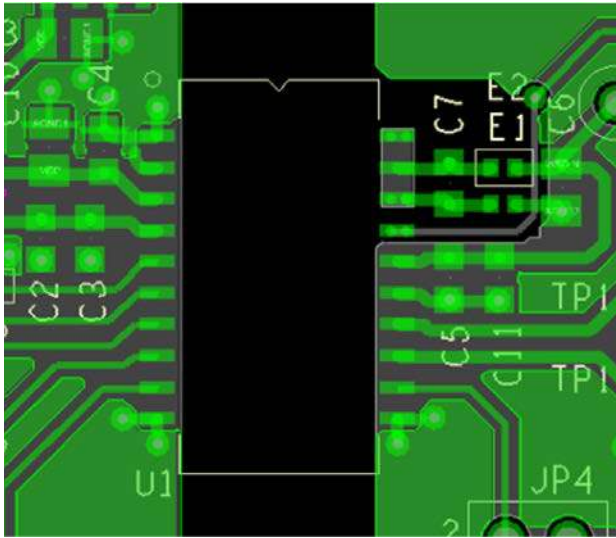
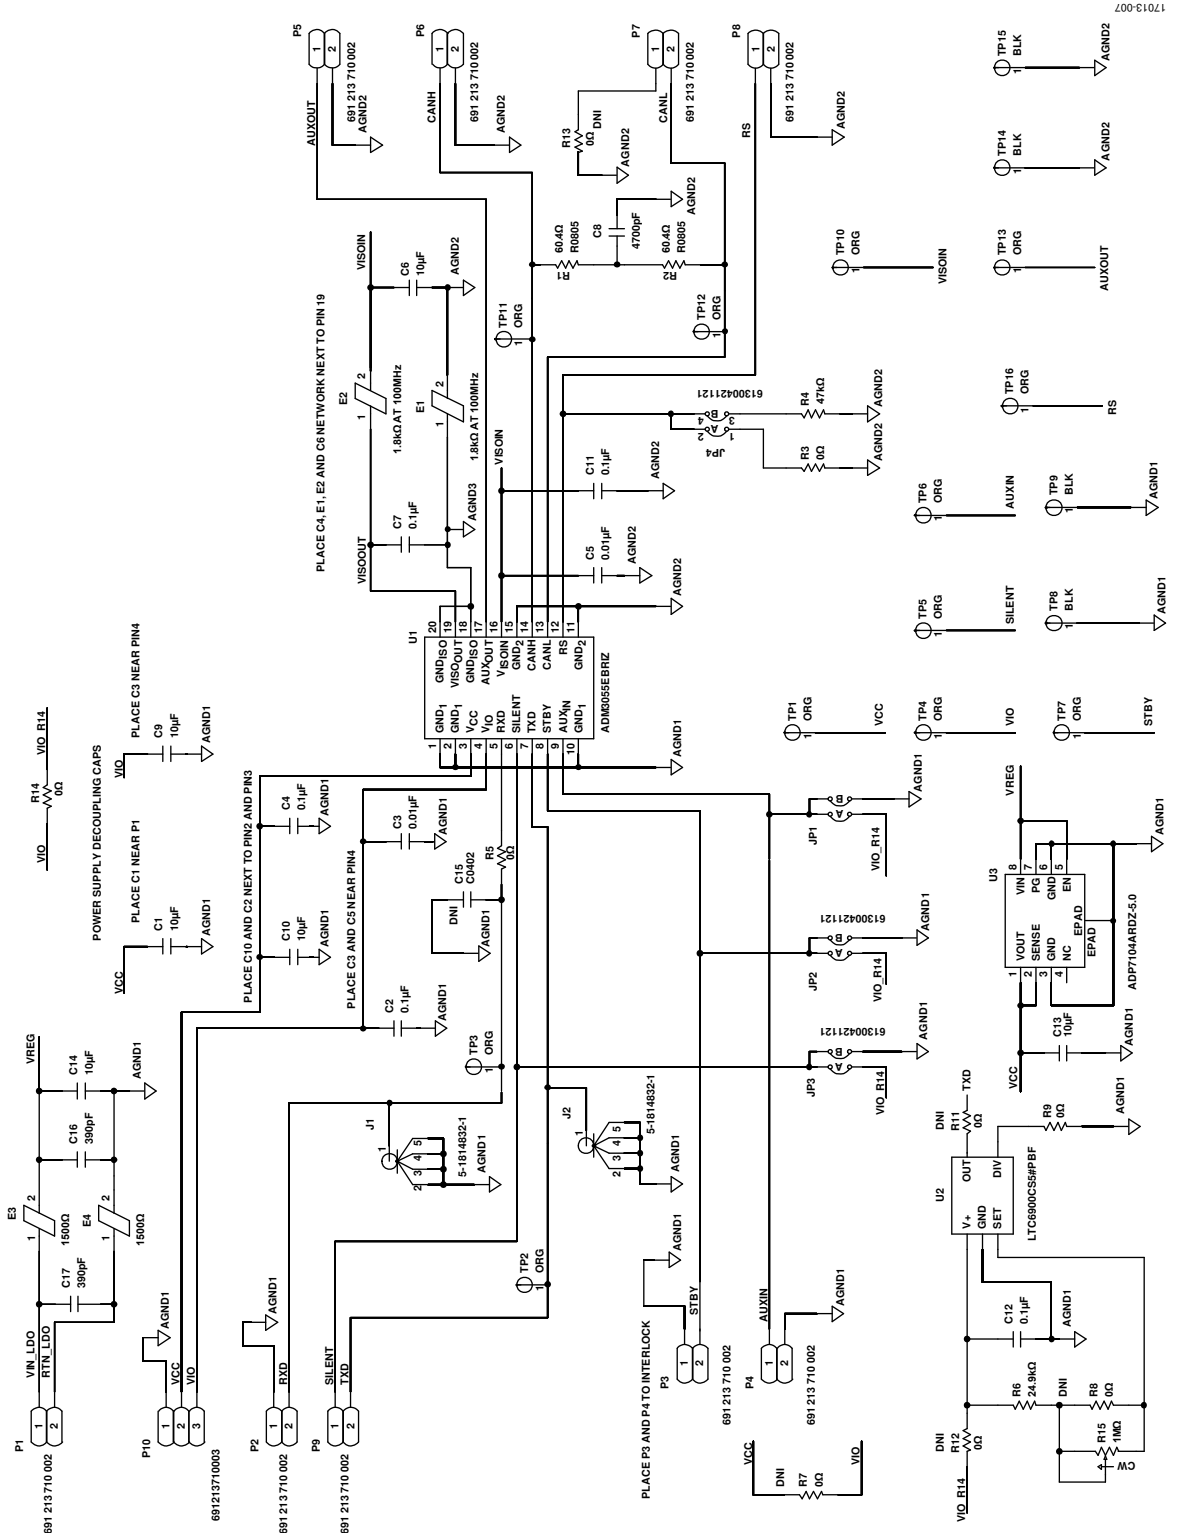

Figure 2. Layout Example for EVAL-ADM3055EEBZ
Figure 5. EVAL-ADM3055EBZ Schematic
To reduce the level of electromagnetic radiation, increase the impedance to high frequency currents between the V_{ISOOUT} pin and the V_{ISOIN} pin and between the GND_{ISO} pins and the GND_2 pins and PCB connections. Using this method of emissions suppression controls the radiating signal at its source by placing surface-mount ferrite beads in series with the V_{ISOOUT} pin and the GND_{ISO} pins (see E1 and E2 ferrites in Figure 5). The impedance of the ferrite bead is approximately 1.8 k Ω between the 100 MHz and 1 GHz frequency range. This impedance value reduces the emissions at the 180 MHz primary switching frequency and the 360 MHz secondary side, rectifying frequency and harmonics. See Table 1 for examples of appropriate surface-mount ferrite beads.
To pass EN55022 Class B on a 2-layer PCB, the following layout guidelines are recommended (refer to Figure 2 and Figure 5):
- Do not connect V_{ISOOUT} (shown in Figure 5) to a power plane. Connect V_{ISOOUT} to V_{ISOIN} using a PCB trace.
- Ensure that V_{ISOOUT} (Pin 19) is connected first through a ferrite before connecting the pin to the V_{ISOIN} (Pin 16), as shown in Figure 2.
- Ensure that GND_{ISO} (Pin 18) is connected by a trace to the other GND_{ISO} pin (Pin 20) on the inside (device side) of the C4 0.22 μ F capacitor, as shown in Figure 2.
- Ensure that there is a keep out area in the PCB layout around the ferrites, as shown in Figure 2 (no PCB planes under or alongside E1 and E2).